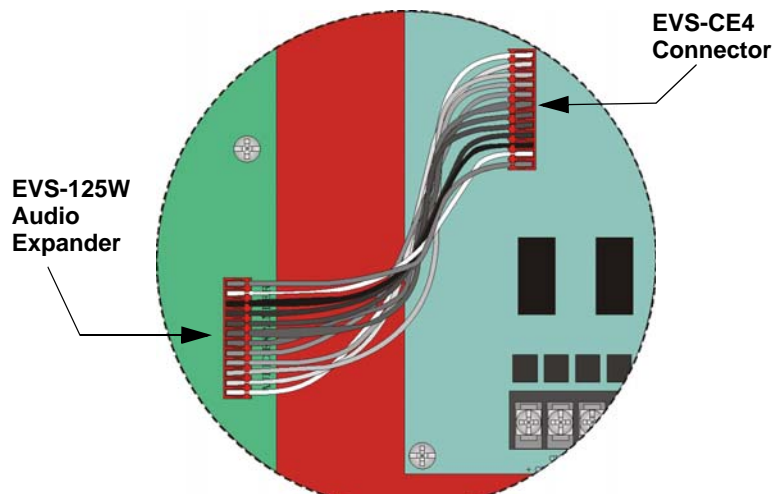

Figure 4-48 Audio Expander Wire Harness Connections
2. Connect the audio expander cable harness (P/N 130426) from the connector labeled “Audio Expander” on the EVS-50W/EVS-125W to the connector on the EVS-CE4 as shown in Figure 4-48.